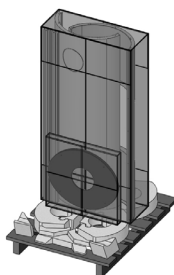

FIG. 2 - PACKAGE OF REFRACTORY PARTS AND BOX WITH SIDES AND TOP
- A pallet containing the refractory parts, the cardboard box containing the sides and the box containing the top Fig.2.